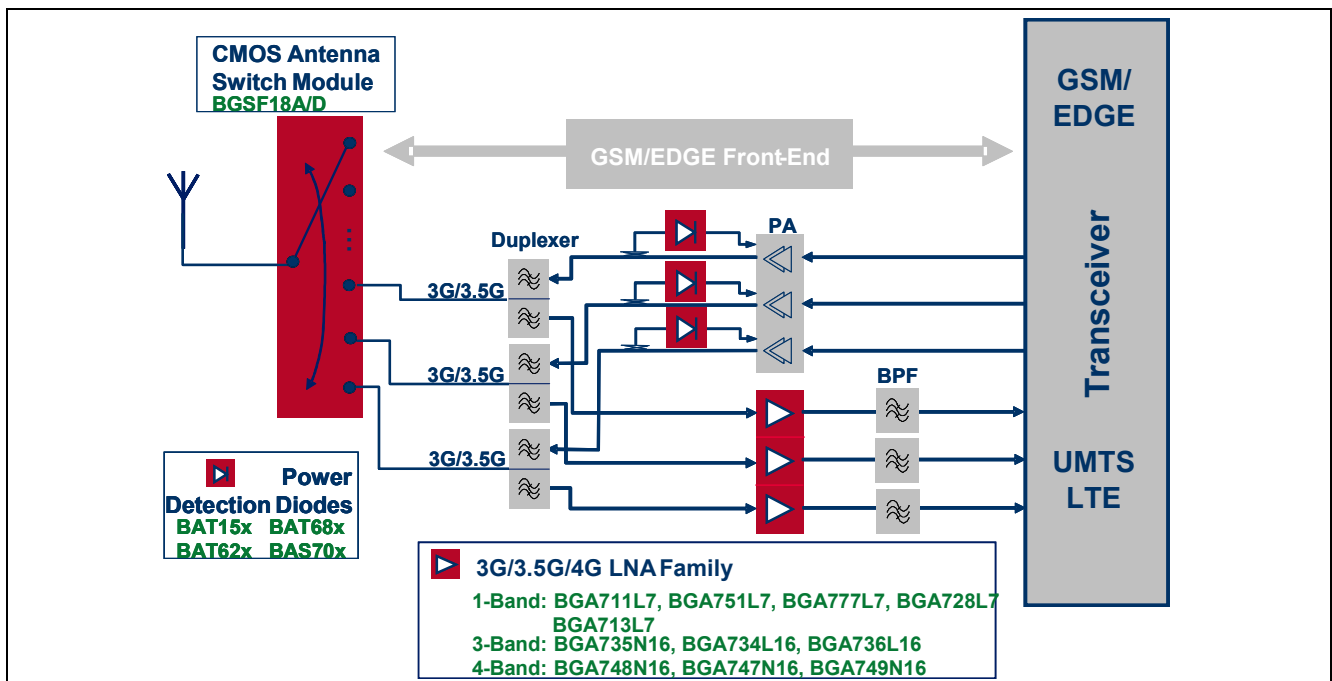

Figure 1 Example of Application Diagram of a 3-band RF front-end for 3G and 4G systems.
Figure 1 shows an example of the block diagram of the front-end of a 3G modem. A SPnT switch connects on one side the modem antenna and on the other sides several duplexers for different 3G bands. Every duplexer is connected to the transmitting (TX) and receiving (RX) paths of each band. The external LNA, here for example BGA735N16, is placed on the RX path between the duplex and the bandpass SAW filter. The output of the SAW filter is connected to the receiver input of the transceiver IC.